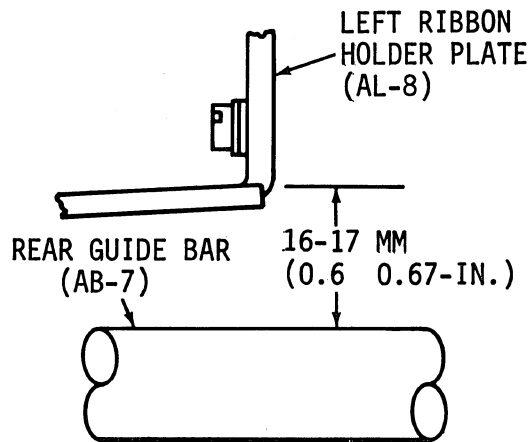

Figure 5-15. LOCATING DIMENSION FOR LEFT RIBBON HOLDER PLATE WITH RESPECT TO REAR GUIDE BAR
#### a. Left Ribbon Holder Plate (AL-8) (Fig. 5-15)
- (1) Maintain parallelism of plate with respect to printer base and apply distance of 16-17 mm (0.6-0.67-in.) between top of plate and top of rear guide bar (AB-7). See Figure 5-15.
- (2) Tighten mounting screws, washers (AL-52, 53, 51) of bracket when parallelism and correct distance has been attained.